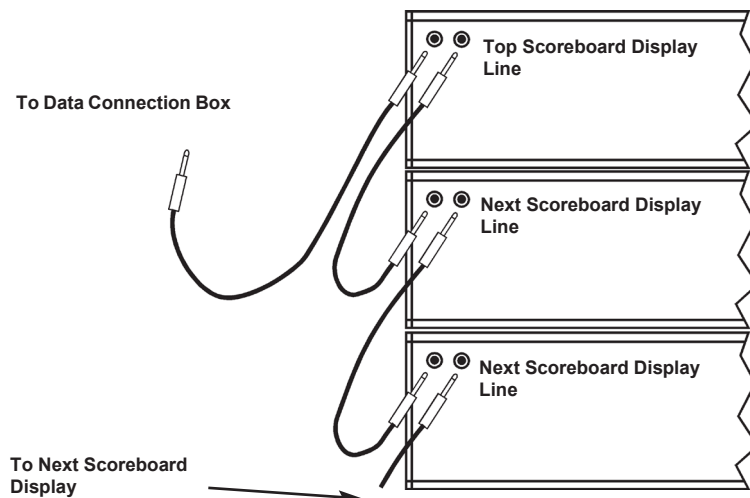

Figure 3-M: Link multi-line scoreboard
- 4) Take one of the short data cables included with your scoreboard package. Attach one connector to the open data input connector on the just-installed scoreboard display line. Attach the other end of the data cable to the next higher scoreboard display line after installing it. When you are finished with the entire installation, all scoreboard display lines should be linked as shown in Figure 3-M.